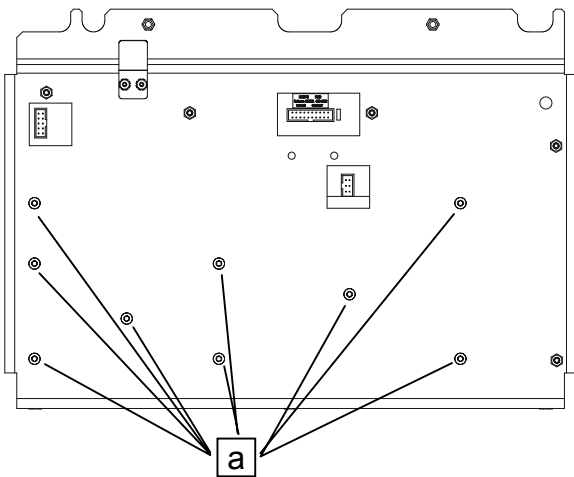

Fig. 15
- Unscrew the 9 fastening screws (Fig. 15, a) of the electronics (A1) at the support sheet.